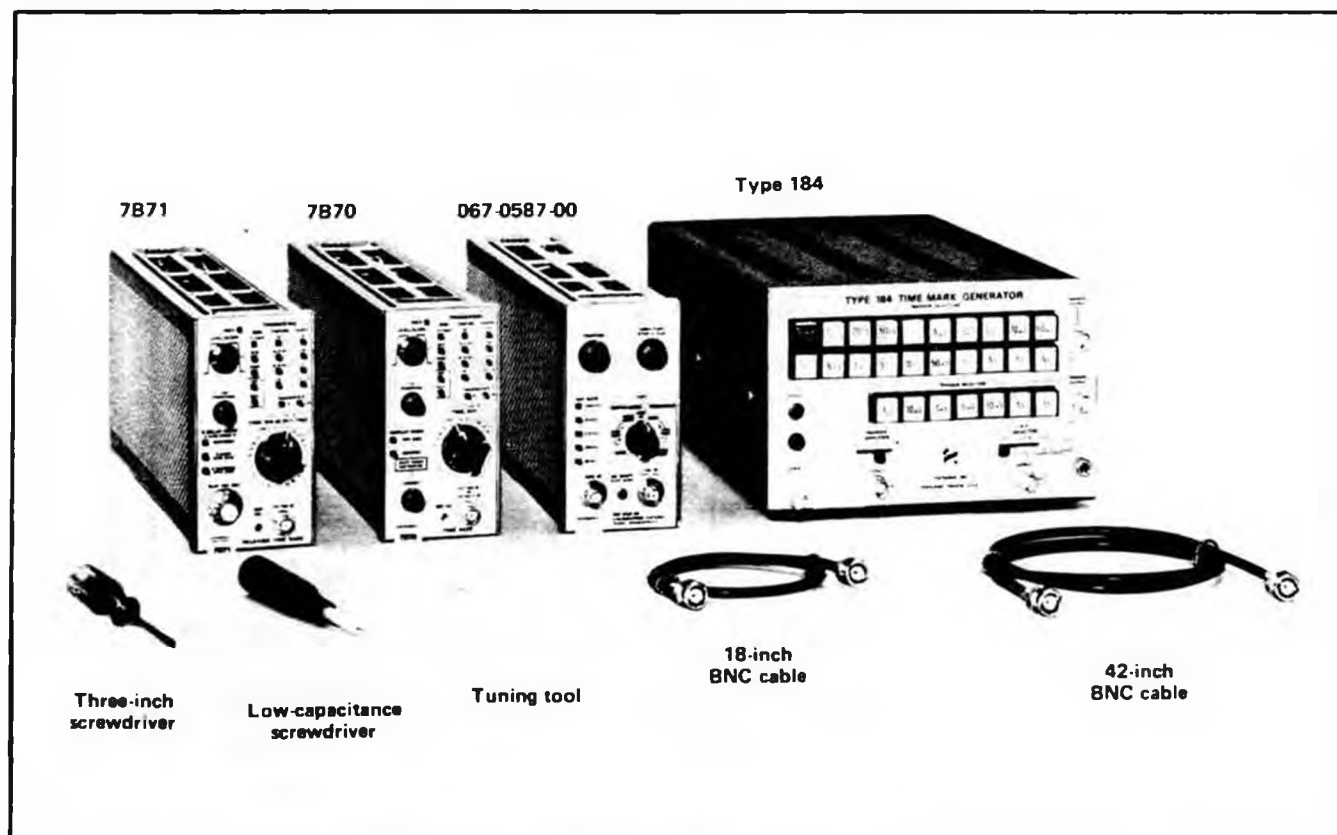

Fig. 5-12. Test equipment required for steps 12 through 17.
①
a. Test equipment required for steps 12 through 17 is shown in Fig. 5-12.